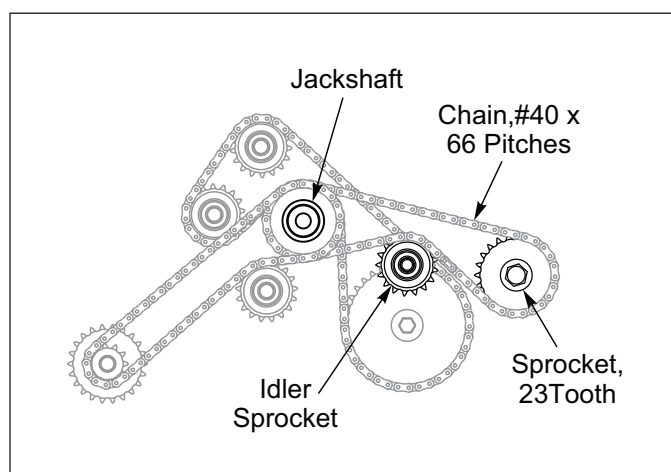

Figure 2-49: Sprocket Chain
17. Install #40 x 66 Pitches Chain. **See Figure 2-49.**